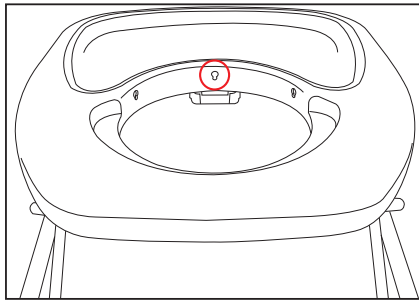
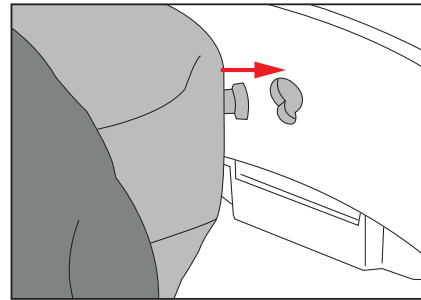

Figure 4.1
Figure 4.2
- Starting with the center plastic post, insert the front center post into the front center hole of the walker (**See Figure 4.1**) and push down to lock in place. **See Figure 4.2.**